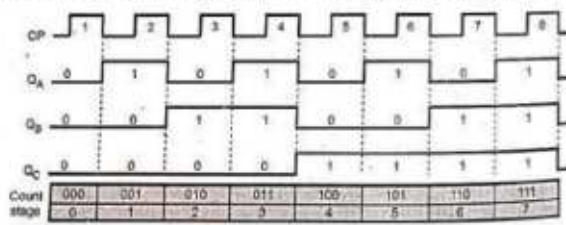

Fig. 5.9.23 Output waveforms for 3-bit asynchronous counter
- Since, T input is connected to logic 1 each flip-flop toggles at clock input. Fig. 5.9.23 shows the timing diagram for 3-bit asynchronous counter.